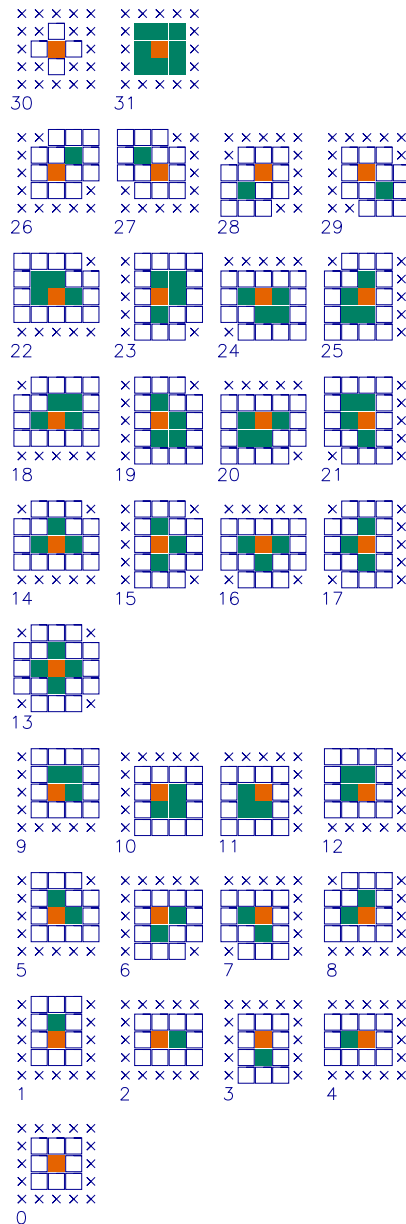
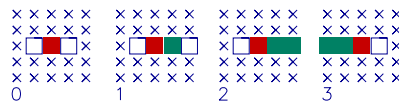

Figure 1: List of EPIC-MOS patterns (IMAGING mode)
Figure 2: List of EPIC-MOS patterns (TIMING mode)
- **EV_REC**. In EDU Threshold mode (associated to telemetry **REDUCED IMAGING** mode), all pixels above the **EMDH** lower threshold and below the **EMDH** upper threshold are transmitted individually (no event recognition is performed on board). **EV_REC** performs the same pattern analysis (Fig. 1) as on-board, with the difference that it is performed with the
In Timing mode this pattern analysis is used to reject events classified as singles or bipixels by the 1-D pattern analysis on board (Fig. 2), but which are actually part of a large track from a cosmic-ray in the framestore area. A 2-D pattern analysis, similar to that in Imaging mode (Fig. 1), is run locally around all events with PATTERN 0 or 1 and the event is accepted only if it would have passed the Imaging pattern analysis, with any PATTERN less than 30. Otherwise it is flagged as COSMIC_RAY. No such cosmic-ray rejection is performed if `analysepatterns` is set to False. This may not be applied in Compressed Timing mode because most events do not have a valid RAWX and PATTERN in that mode.
If Timing mode was configured on-board with EDUMODE=3 and Imaging patterns (non-standard), then no additional pattern analysis is carried out within `emevents`. Instead the PATTERN values are converted to Timing patterns (Fig. 2) (between 0 and 3), and all events with vertical extension are flagged as CLOSE_TO_BRIGHTPIX. Those are true events, but their energy is wrong because it was added to that of another event.
- BINODAL. If the CCD was read through both nodes (mode PRI PART W6 IMAGING only), X-rays interacting close to the median column of the CCD have their charge cloud split over both nodes. BINODAL recognizes as only one event those which have been detected on both sides, using the same patterns as on-board (Fig. 1). This means also rejecting events which become larger than the accepted patterns. Only events with their maximum on this side of the border are kept in the list (*i.e.* the event list remains formally associated to one node). If the frame for the other node is flagged as bad, then its events should not be merged. Instead events immediately next to the other half of the CCD should be flagged as CLOSE_TO_CCD_BORDER.
- DIAGO. Diagonal patterns (26 – 29 on Fig. 1) are mostly due to two close-by single events. DIAGO forms two events out of one in that case. Both events are flagged with DIAGONAL to distinguish them from true single events. The second event is created only if its charge (*i.e.* E_2) is above the EMDH lower threshold. This operation does not respect the order of increasing RAWY within a frame. This routine is not applicable in TIMING mode. When either E_1 or E_2 is within one HWHM of the energy of Si K (1740 eV), the event can be due to partial absorption associated with Si fluorescence, caught in a neighbouring pixel. This appears as a line at that energy in the spectrum of diagonals. If `keepsifluor` is set to True, these events are not split in two but their PATTERN is changed from diagonal to bipixel (so that it receives the appropriate calibration), and it is flagged with DIAGONAL (to
- **CUT_GTI**. All events whose frames were flagged for rejection by **emframes** (flag above 64) are flagged for rejection with **IN_BAD_FRAME**. Events whose frames were flagged below 64 by **emframes** are flagged with **IN_SPOILED_FRAME**. “cosmic-ray” events (patterns 30 and 31 in Fig. 1, read from **CRPATi** keywords) are flagged with **COSMIC_RAY**. **CUT_GTI** propagates the **FRMTIME** and **CRPATi** keywords.
Figure 1 for Imaging mode should be interpreted as follows:
Figure 2 for Timing mode should be interpreted in the same way as in Imaging mode, with the difference that the place where maximum charge occurs is ignored. There are only crosses in the rows above and below that of the event. This means that the Timing pattern analysis is purely 1-D (it is insensitive to other rows), because each Timing 'row' is actually the sum of 100 true rows, so the rows are not physically related. Because there is no test for maximum charge, all doubles appear as $\text{PATTERN}=1$, whether leading or trailing.